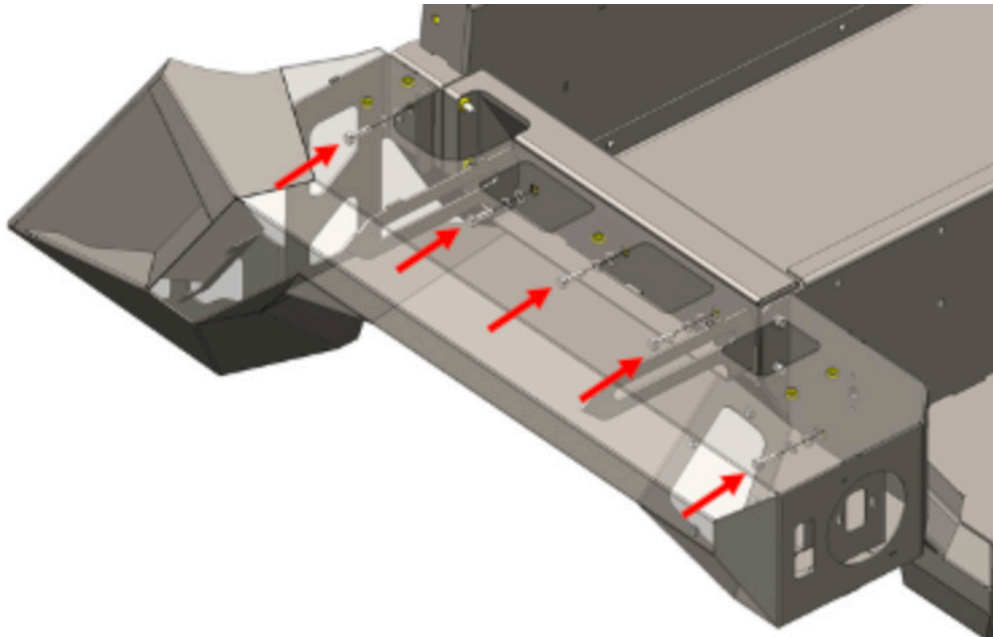

Figure 16.
17. Install the driver and passenger side fenders (22777 and 22778) using five (5) of the provided 3/8" hex head bolts and flat/lock washers. Plug in lights to OE harness. Figure 16.